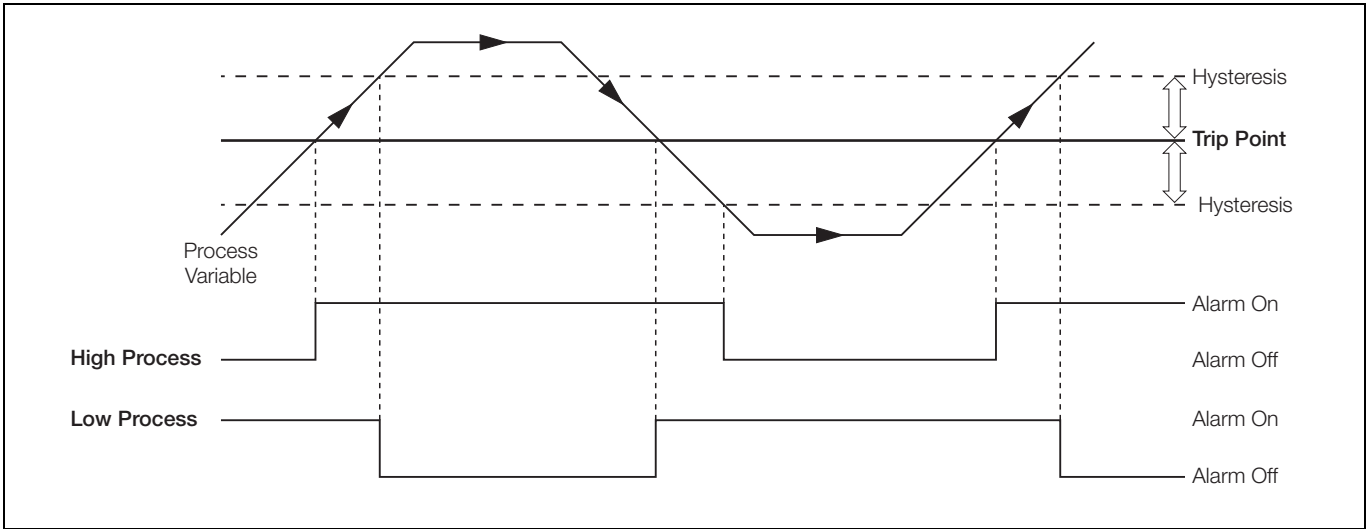

Fig. 3.1 High and Low Process Alarm with Hysteresis
- High Process – See Fig. 3.1 on page 31
- Low Process – See Fig. 3.1 on page 31